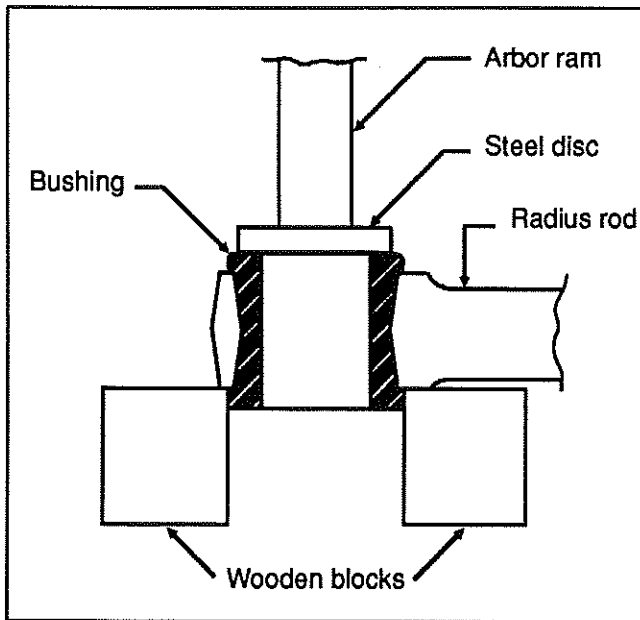

FIG. 20 - Removing radius rod bushing
1. Safely support the radius rod as shown in figure 20.
2. Place a flat steel disc, slightly smaller than the outside diameter of the bushing (see fig. 20).